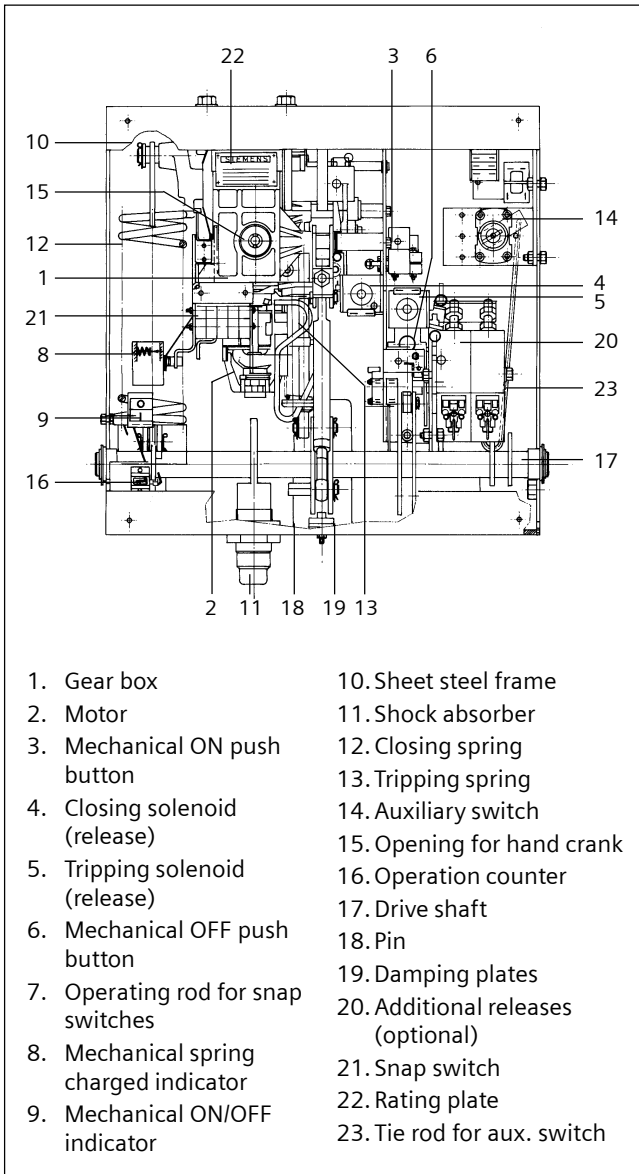

Fig. 11 Details of operating mechanism
- (a) Insert the manual handle (P-7, Fig. 7) between the drive mechanism shaft (P-17, Fig. 11) and pin (P-18, Fig. 11).
- (c) Keeping the handle pressed down, press the OFF P.B. (P-6, Fig. 11) and gradually release the pressure on the handle, allowing the shaft to rotate. The movement ends with the indicator showing "O" symbol for CB Off.
7.3 Charging the Closing Spring manually (Fig. 11)
7.4 Manual Closing (Fig. 11)
7.5 Manual Opening (Fig. 11)